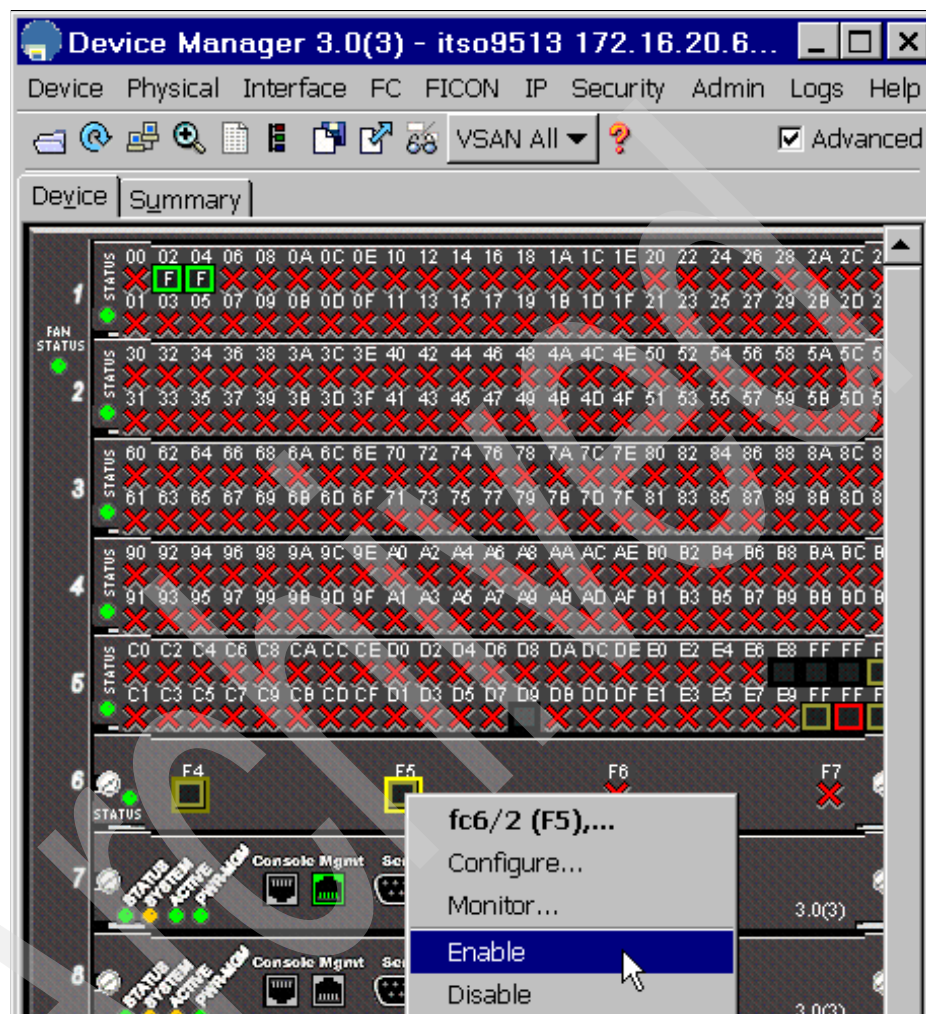

Figure 12 Enable E_Ports on 9513
- Repeat these steps in DM for interfaces FC6/1 and FC6/2 on the 9513 as shown in Figure 12.